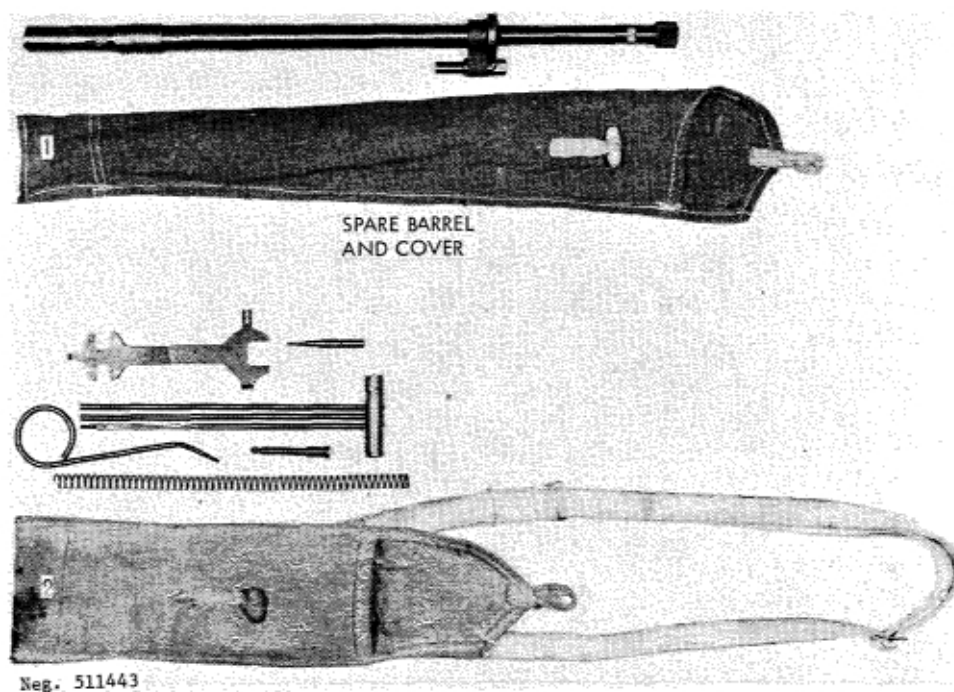

Figure 144. Typical Degtyarev accessories.
a. The following accessories (fig 144) are issued for use with the Degtyarev machinegun: